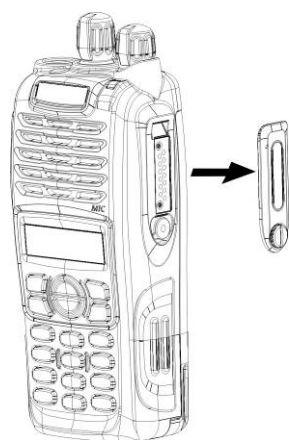

Figure 6
2. Remove the accessory cover. See figure 6.